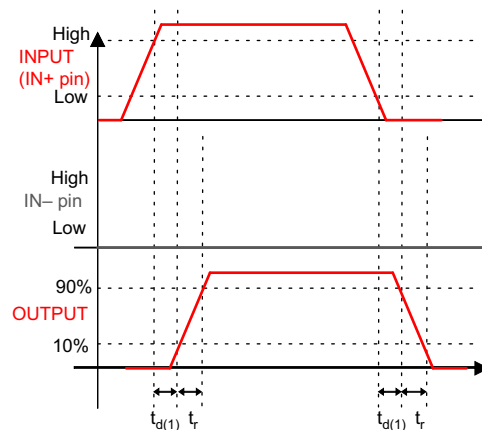
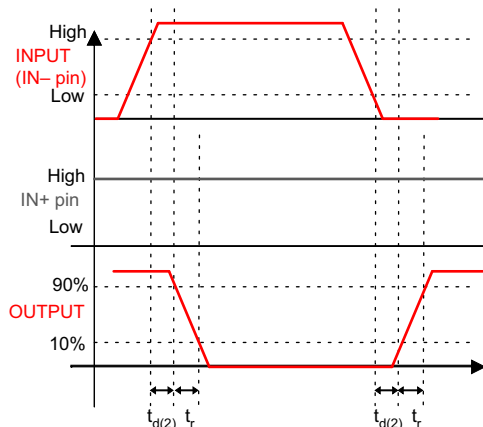
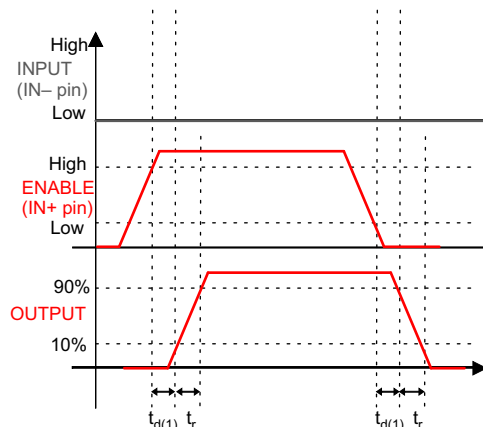
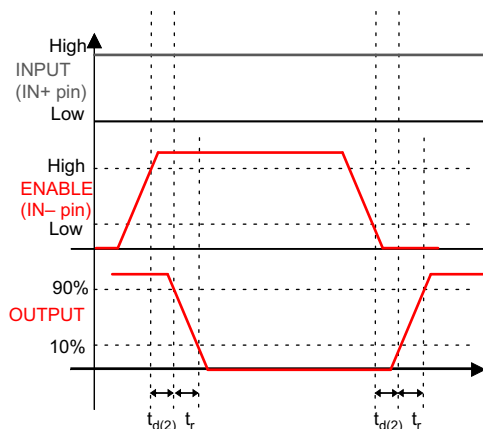

Figure 1. Non-Inverting Configuration
Figure 2. Inverting Configuration
Figure 3. Enable And Disable Function Using IN+ Pin
Figure 4. Enable and Disable Function Using IN- Pin
$V_{DD} = 12\text{ V}$, $T_A = T_J = -40^\circ\text{C}$ to 140°C , $1\text{-}\mu\text{F}$ capacitor from V_{DD} to GND. Currents are positive into, negative out of the specified terminal. See Figure 1, Figure 2, Figure 3, and Figure 4
(1) See timing diagrams in Figure 1, Figure 2, Figure 3, and Figure 4.